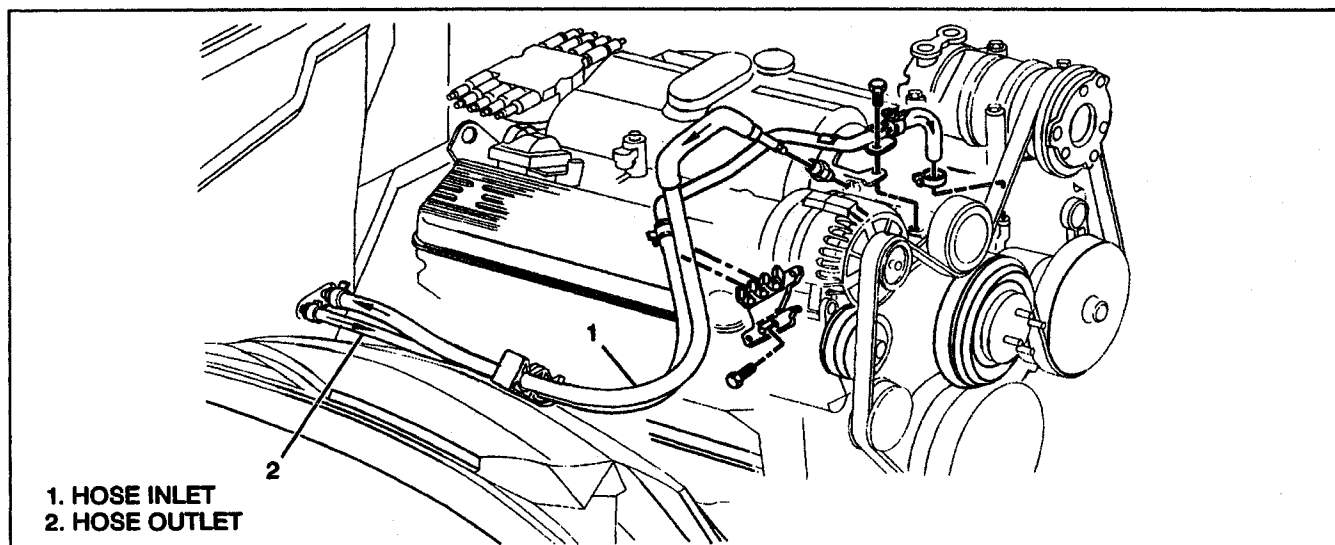

Figure 14—Heater Hose Routing - (All Gasoline Engines)
**Remove or Disconnect (Figures 14 and 17)**
Install or Connect (Figures 14 and 17)
Remove or Disconnect (Figures 14 and 17)